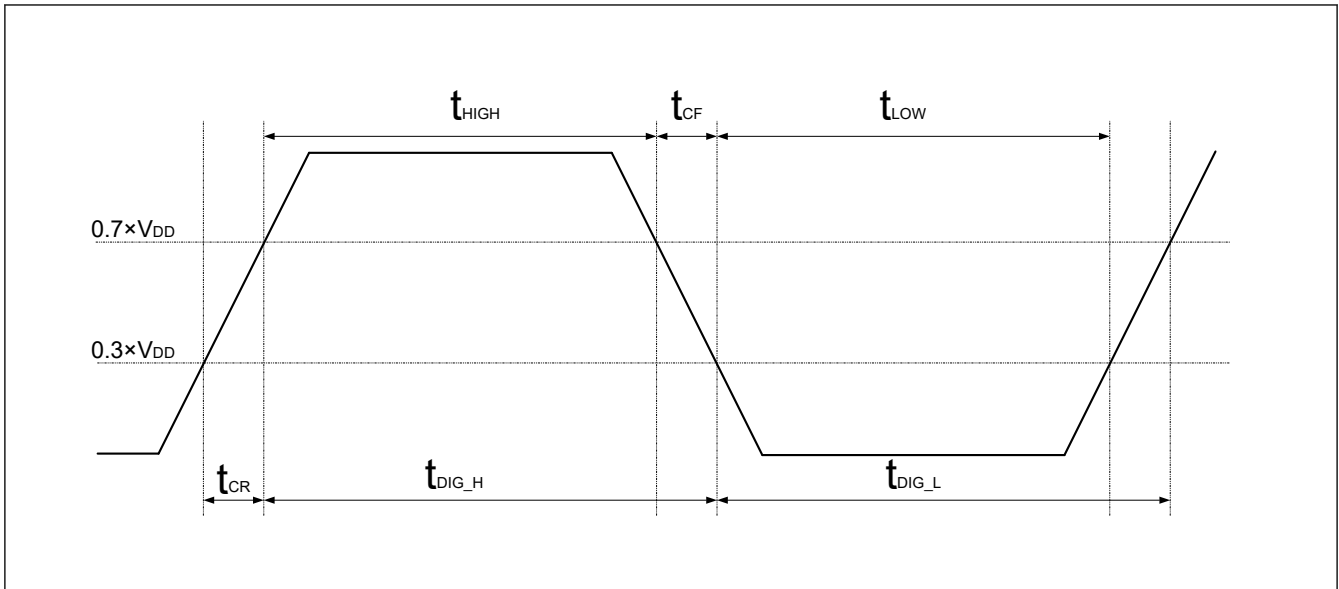

Figure 2.34  $t_{DIG\_H}$  and  $t_{DIG\_L}$
- $t_{DIG\_L}$  and  $t_{DIG\_H}$  are the clock Low and High periods as seen at the receiver end of the I3C Bus using VIL and VIH (see Figure 2.34)